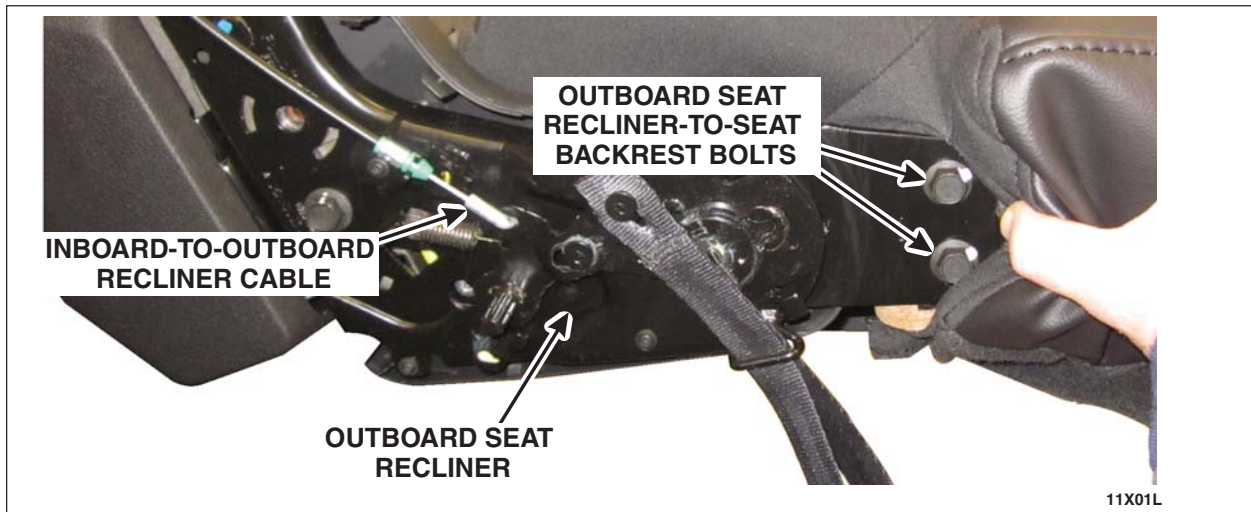

FIGURE 12
28. Pull the seat backrest trim cover back and **loosen, but do not remove**, the 2 outboard seat recliner-to-seat backrest bolts. See Figure 12.
29. Detach the inboard-to-outboard recliner cable from the outboard seat recliner. See Figure 12.
43. Attach the inboard-to-outboard recliner cable to the outboard recliner. See Figure 12.
46. Tighten the 2 outboard recliner-to-seat backrest bolts. See Figure 12.